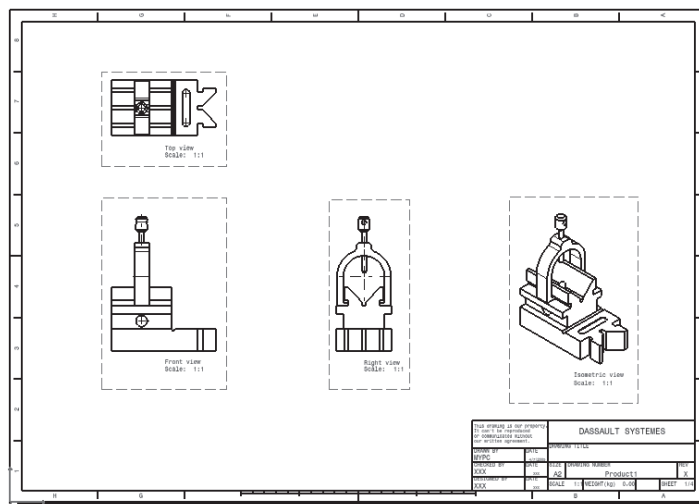

Figure 13-38 The drawing sheet, after generating the front, top, right, and isometric views
- Generate the front view, refer to Figure 13-38.
- Generate the top view, refer to Figure 13-38.
- Generate the right view, refer to Figure 13-38.
- Generate the isometric view, refer to Figure 13-38.
1. Generate the front, top, right, and the isometric views of the V-Block assembly. The drawing sheet, after generating the views, is shown in Figure 13-38.